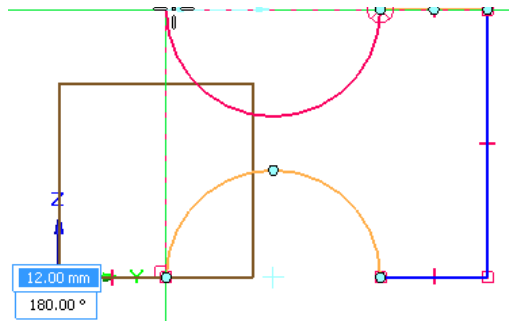

Figure 2-57 Horizontal and vertical dotted lines displayed to define the endpoint of the arc
15. Move the cursor once over the lower arc and then move it toward left in line with the upper right horizontal line from where this arc starts. On doing so, a horizontal dotted line originating from the upper right horizontal line is displayed. At the point where the cursor is vertically in line with the start point of the lower arc, a vertical dotted line appears from the start point of the lower arc, as shown in Figure 2-57.